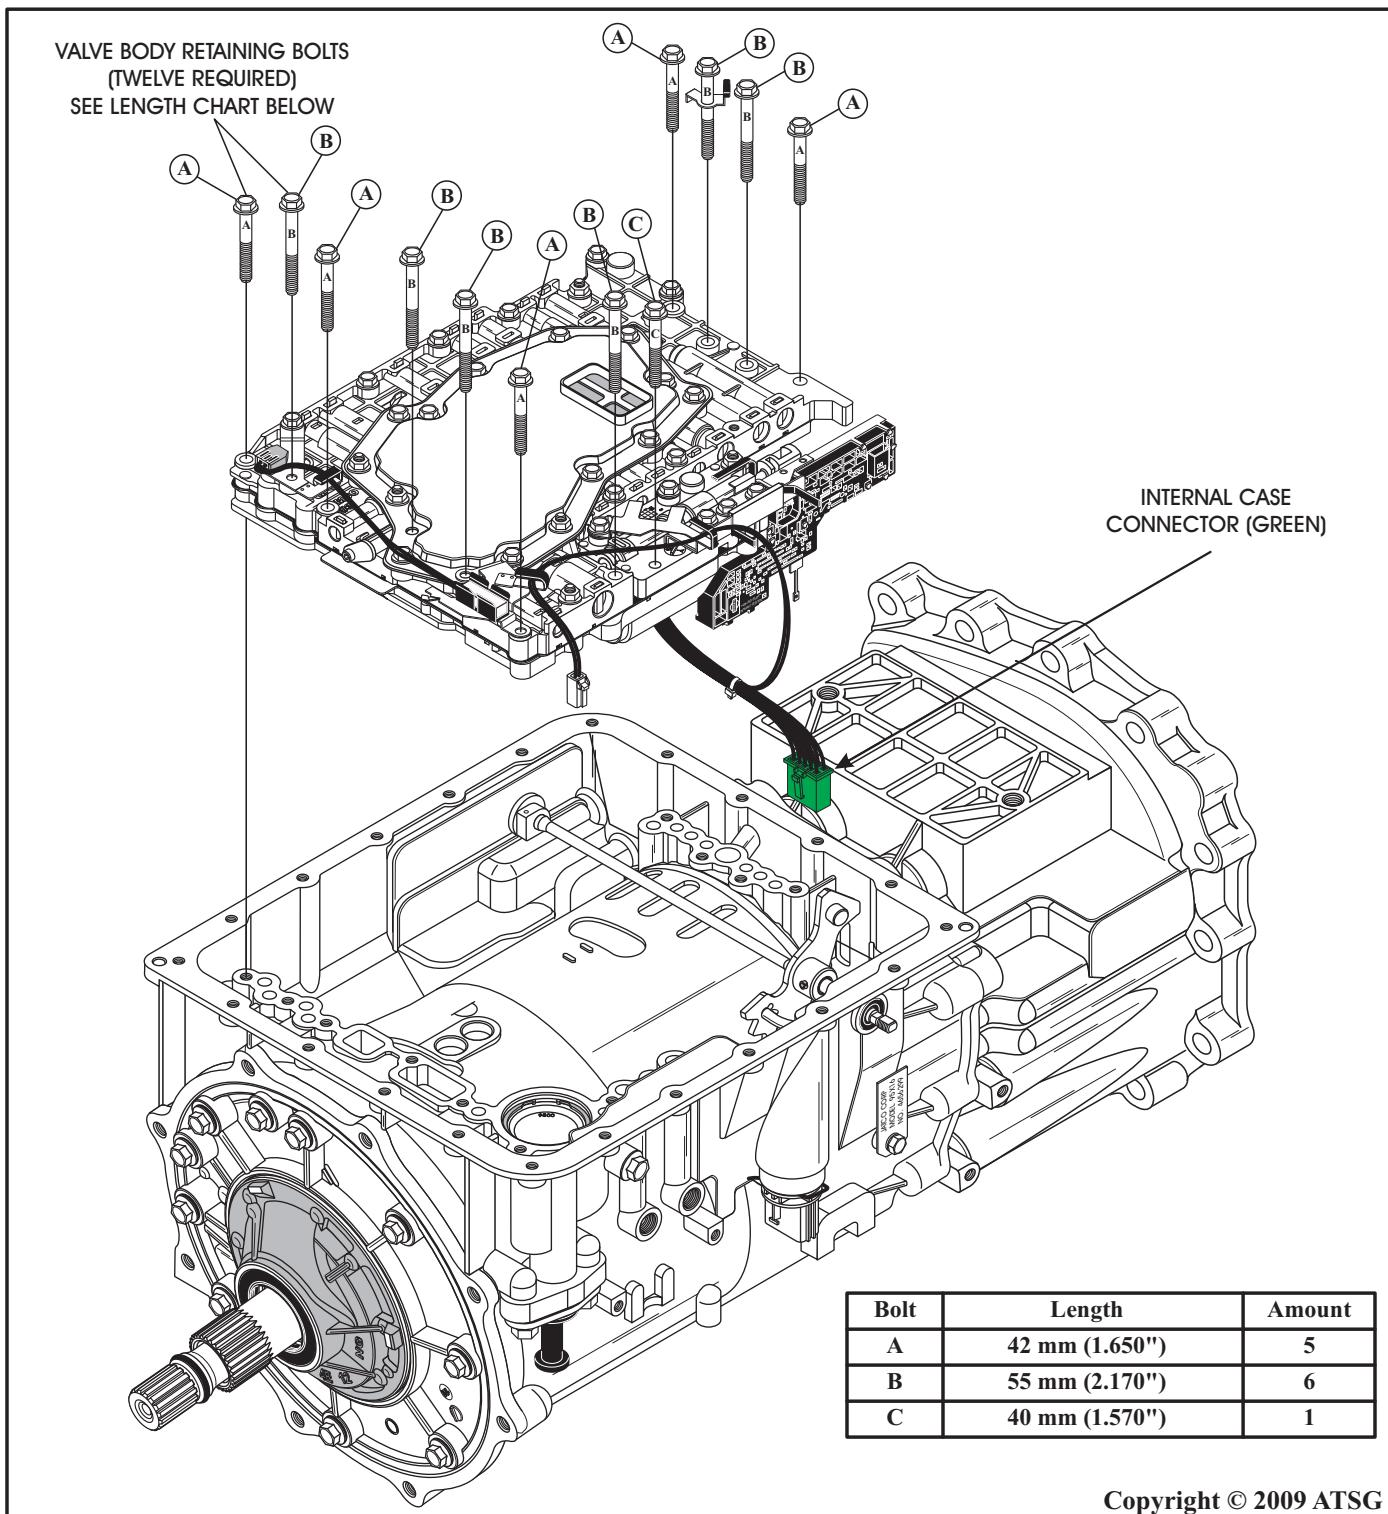

Figure 40
10. Remove **only** the 12 valve body retaining bolts that are shown in Figure 40.
Note: Notice there are 3 different lengths and a chart has been provided in Figure 40.
11. Remove the valve body by lifting straight up, as shown in Figure 40.
12. As you lift valve body, you must reach down and disconnect the internal (Green) connector from the "Pass Through" connector, as shown in Figure 40.